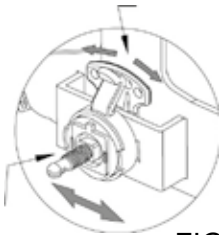

FIG. 8
- Adjust the viewing angle by loosening the headgear tension knob on the right side of the helmet. Release the adjustment lever, turn it forward or backward to the desired tilt position. After releasing the lever, the helmet locks in place (Fig. 8).